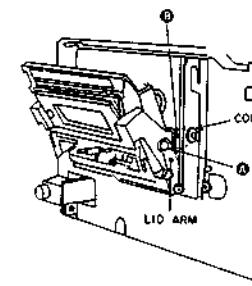

Fig. 3-1
- 2) While pulling the Θ section of the LID ARM outward, press inward on the Θ section of the LID CASE to disengage the LID CASE from the collar and LID ARM (Refer to Fig. 3-1, 3-2)